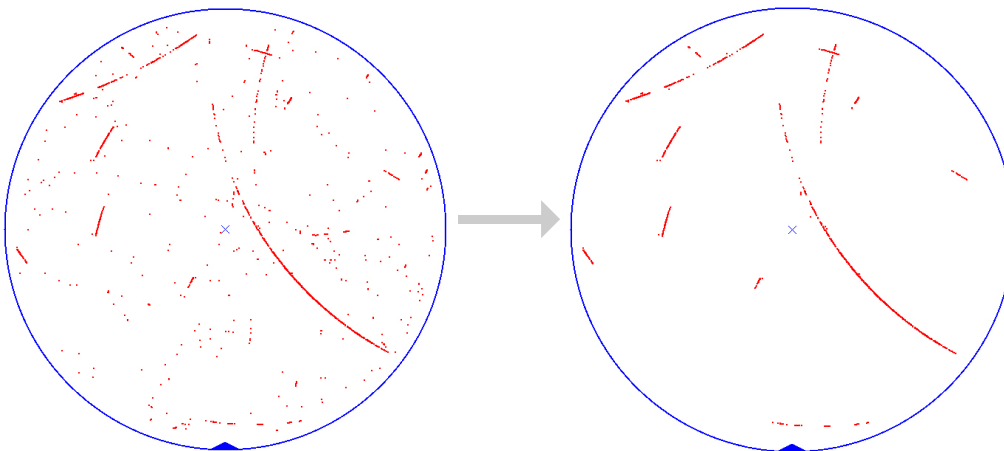

Figure 4
When the data source for the inspection equipment results files is defined as a KLARF file path, as it is in the above recipe (step 2), the IDA Automation Workbench continuously monitors a specified folder for input files. As KLARF files are written to the folder, the IDA recipe opens the file and analyzes it according to the recipe. The next two functional blocks in the recipe (steps 3 and 3A) comprise a process step filter; step 3 checks the process step entry in the KLARF file header and passes it to the decision block (3A). If it matches the specified CMP Step ID, the analysis of the file proceeds; if it does not, the recipe does not analyze the file. The next block (4) analyzes the file for scratches and writes the results to an output KLARF file (5), which is then sent via email to SPC (6). Figure 4 shows a wafer map of an input file and an output file after scratch analysis.